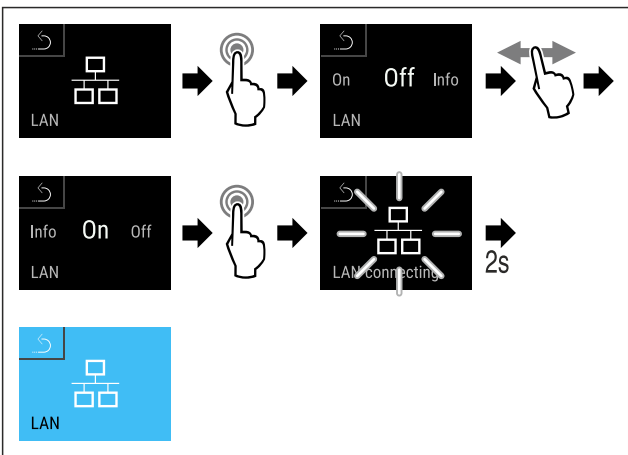

Fig. 126
- ▶ Complete the steps (see Fig. 126).